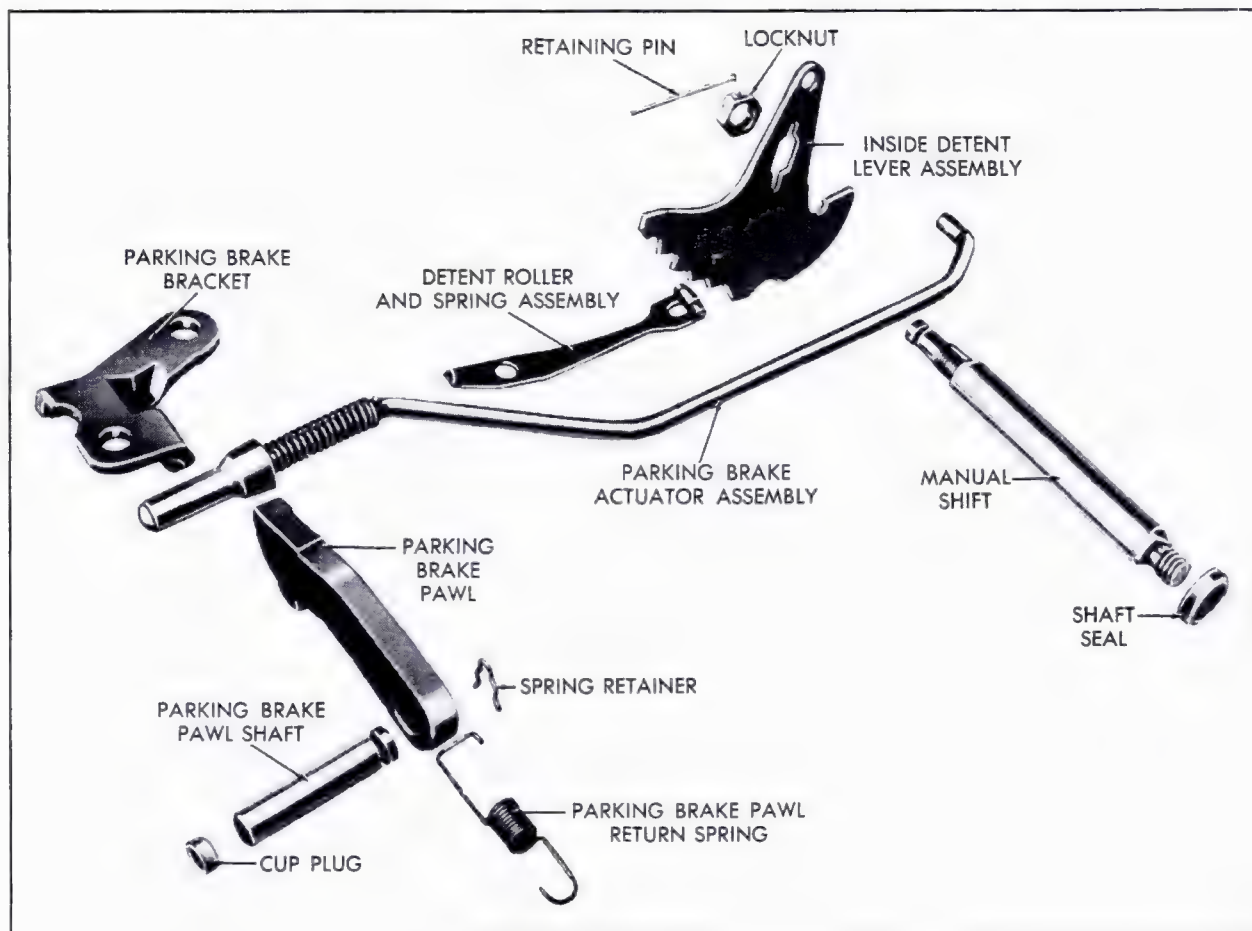

Fig. 7-52 Manual and Parking Linkage Disassembled
l. Remove Detent Lever, Manual Shaft, and Parking Linkage (Fig. 7-52)